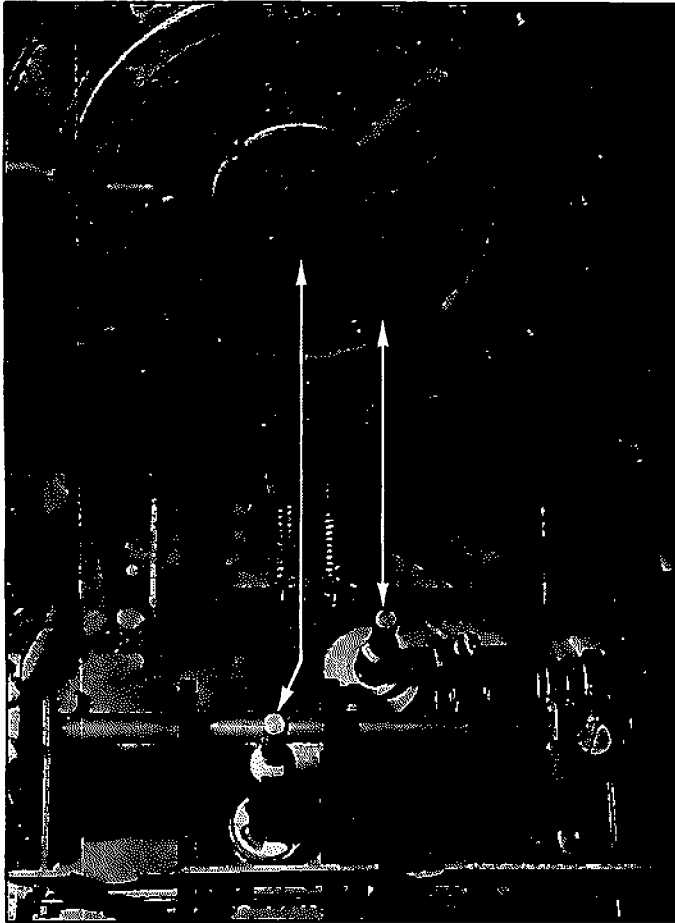

Figure 7. Shaft Alignment Before Installation of Meter Register on Meter Preset.
12. Install the Meter Register on top of the Meter Preset with attention to proper alignment of the two "up-down" shafts (Figures 7 and 8). Secure the units together with the four bolts and a new lockwire.